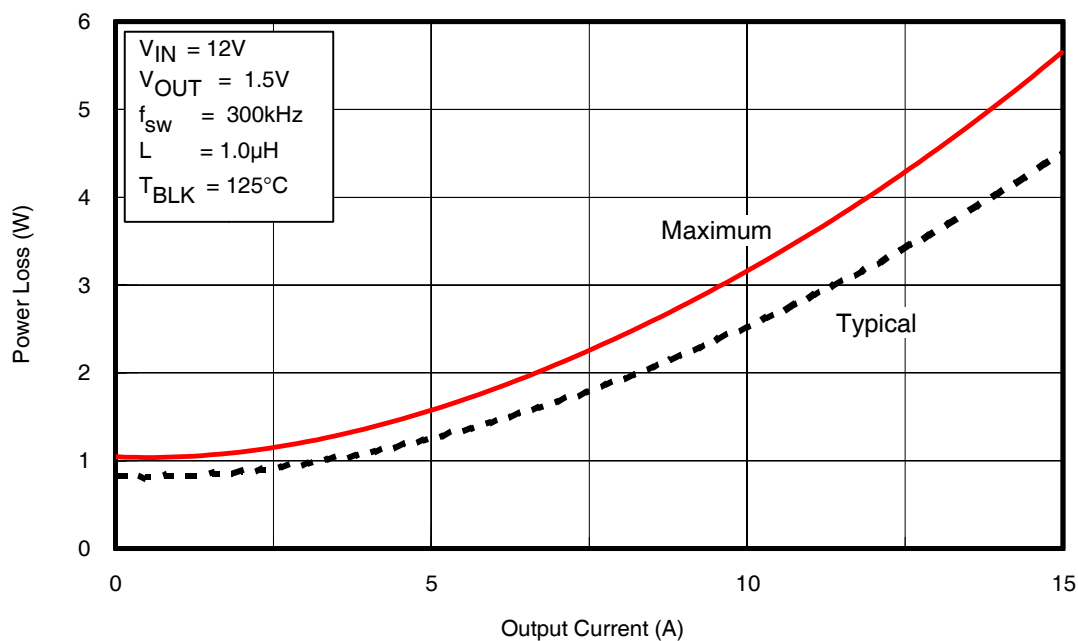
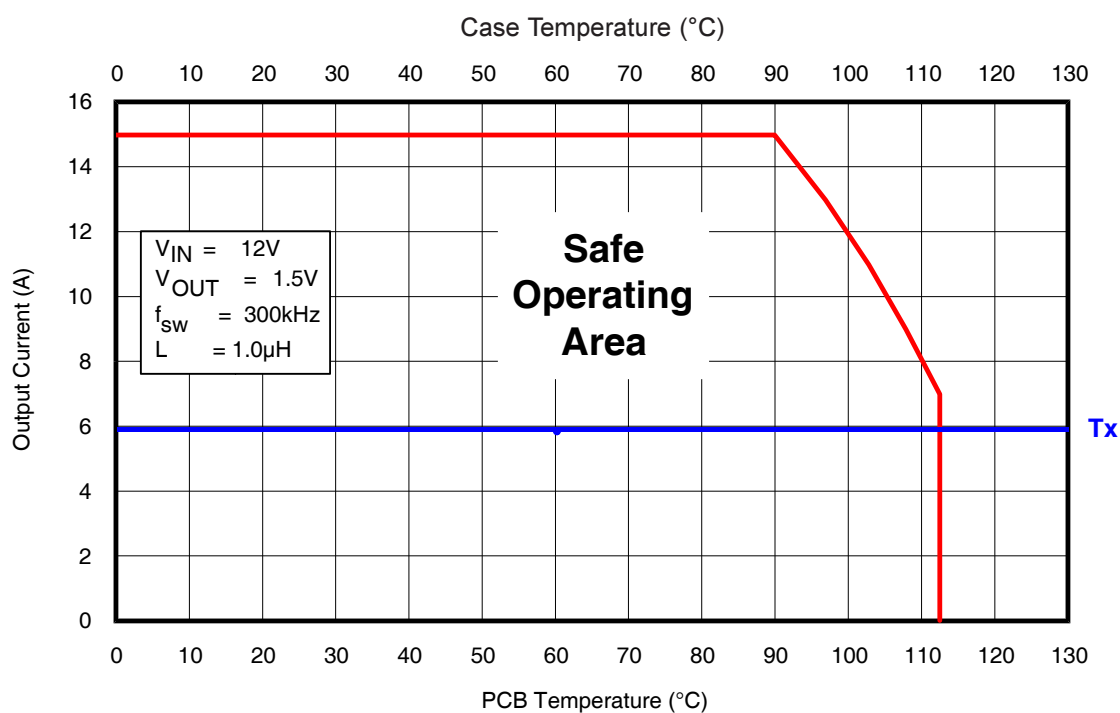
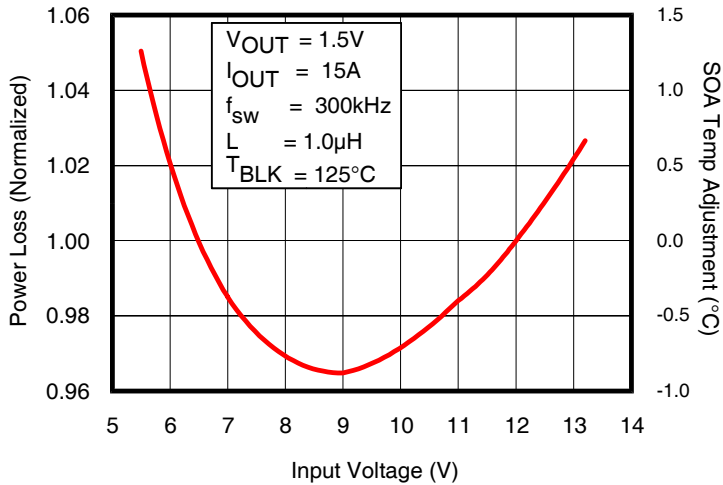

Fig. 2: Power Loss vs. Current
Fig. 3: Safe Operating Area (SOA) vs. T_{PCB} & T_{CASE}
Fig. 4: Normalized Power Loss vs. V_{IN}
To make adjustments to the power loss curves in Fig. 2, multiply the normalized value obtained from the curves in Figs. 4, 5, 6 or 7 by the value indicated on the power loss curve in Fig. 2. Then if multiple adjustments are required, multiply all of the normalized values together, then multiply that product by the value indicated on the power loss curve in Fig. 2. The resulting product is the final power loss based on all factors. See example no. 1.
To make adjustments to the SOA curve in Fig. 3, determine your maximum PCB Temp & Case Temp at the maximum operating current of each iP1203PbF. Then, add the correction temperature from the normalized curves in Figs. 4, 5, 6 or 7 to the T_X axis intercept (see procedure no. 2 above) in Fig. 3. When multiple adjustments are required, add all of the temperatures together, then add the sum to the T_X axis intercept in Fig. 3. See example no. 2.
- (Fig. 2) Maximum power loss = 4.1W
- (Fig. 4) Normalized power loss for input voltage ≈ 1.025
- Output1 (Fig. 4) Normalized SOA Temperature for input voltage $\approx +0.7^{\circ}\text{C}$